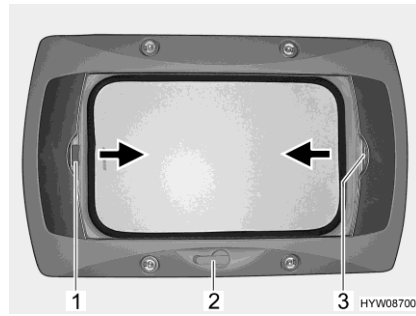

Fig. 83 Wind-up skylight
- Rotate the hand crank (Fig. 83,2) until a resistance can be felt.
- Pull the handle of the Roman shade (Fig. 83,3) in the direction of the arrow and release it in the desired position. The Roman shade will stay in that position.
- Use the handle to pull the insect screen (Fig. 83,1) in the direction of the arrow to the opposite handle of the Roman shade (Fig. 83,3) and allow it to engage.
- Press the handle of the insect screen (Fig. 83,1) at the back upwards and detach the insect screen from the Roman shade (Fig. 83,3).